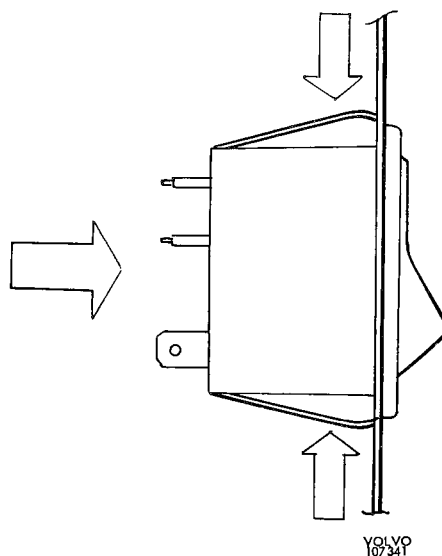

Fig. 3-120. Removing headlight switch
4. Remove the switch by first pressing in the lock springs and then pressing the switch out of the panel, see Fig. 3-120.